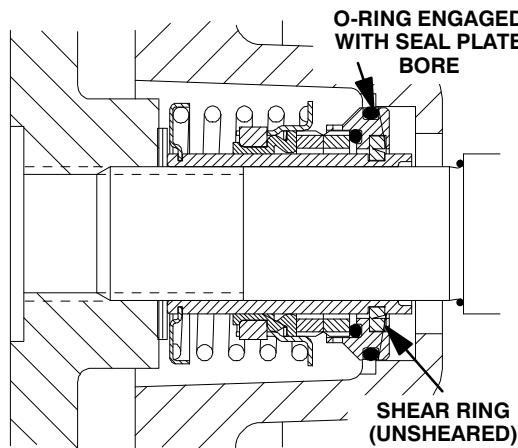

Figure 14. Seal Partially Installed
Clean and inspect the impeller as described in **Impeller Installation and Adjustment**. Install half of the set of impeller shims (2) provided with the seal, and screw the impeller onto the shaft until it is seated against the seal (see Figure 14).